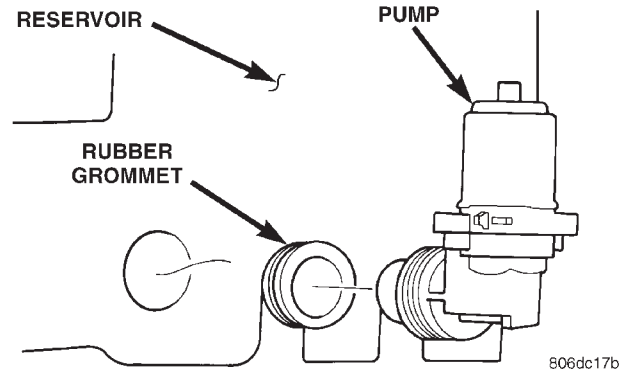

Fig. 13 Washer Pump
- (1) Partially remove the bumper fascia as needed to gain access to the reservoir pump. Refer to Group 23, Body.
- (2) Place a drain bucket below the reservoir to catch any washer solvent that may leak out.
- (3) Firmly grasping pump by hand twist and pull away from reservoir and out of grommet. Care must be taken not to puncture reservoir (Fig. 13).
- (4) Remove rubber grommet from reservoir and throw away.